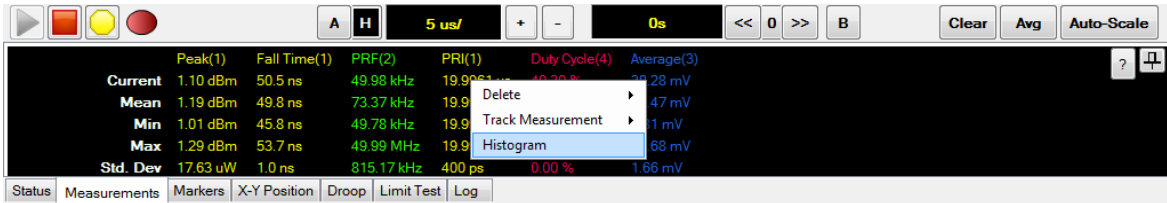
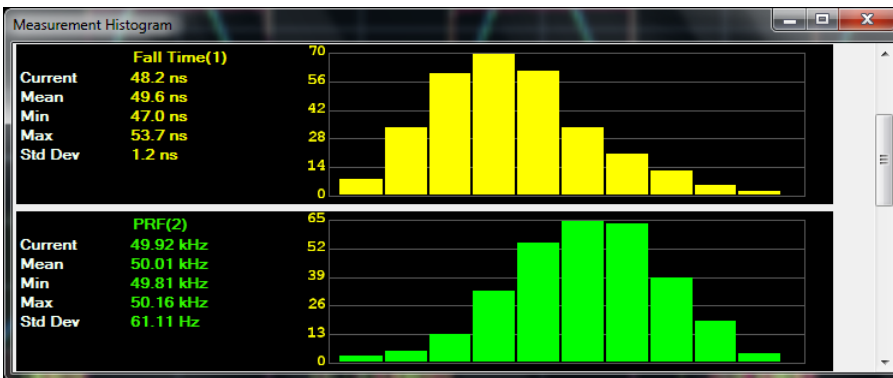

Figure 2-109 To view a histogram based on the results on the multi-purpose pane
Figure 2-110 Histogram window
- 4 To view a histogram detailing the measurements, select the Measurement view area to display the **Histogram** button and click it as shown in Figure 2-109. The histogram window is shown in Figure 2-110.